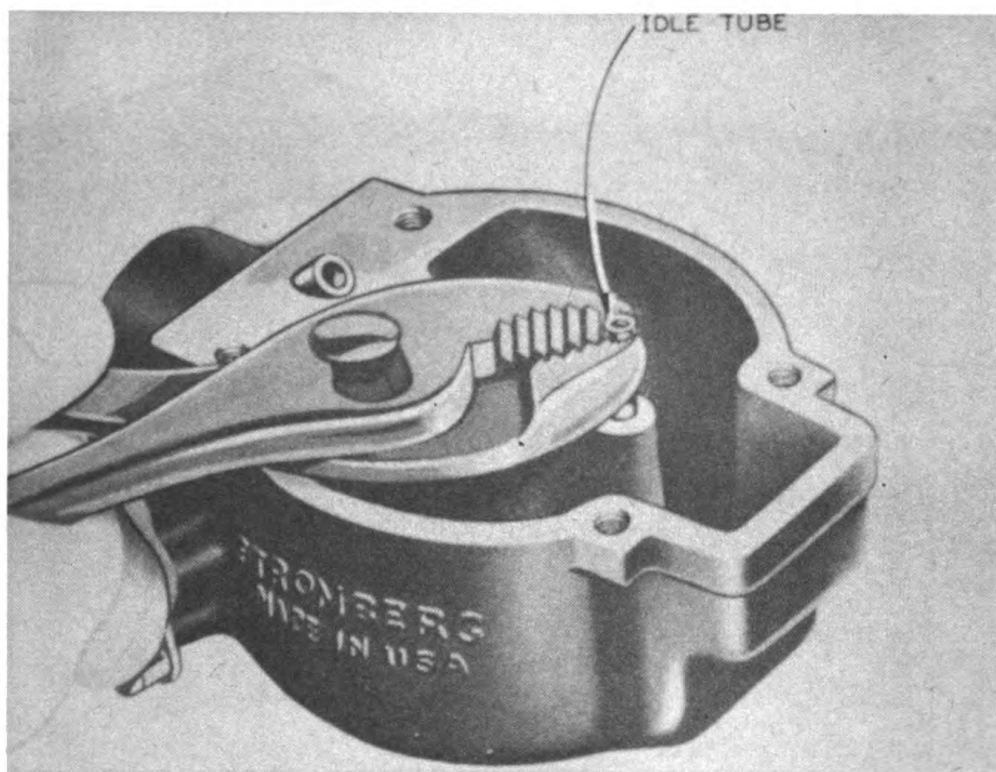

Fig. 99
5. Install idle tube securely. (Fig. 99).